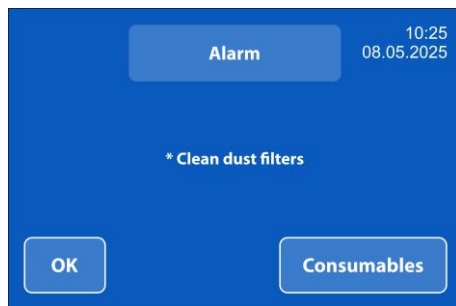

Figure 9. Sample alarms
8.1.5. **Alarms** raised by the unit are available by pressing the **Alarm** button (exclamation mark, figure 4). Alarms notify that UV lamp useful time is nearing its end (see 8.3) and dust filters need replacement or cleaning (see 8.4). Press the **OK** button to return to the previous screen. Sample alarms can be seen in figure 9.